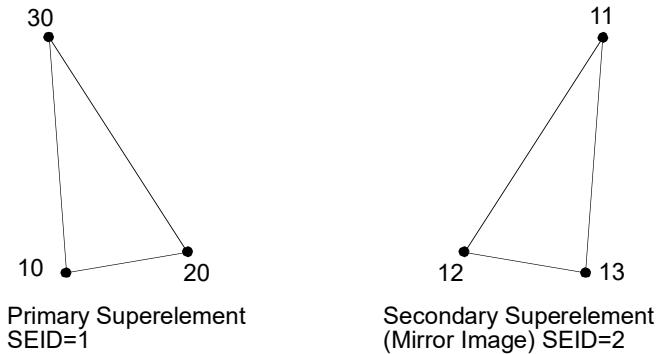

Figure 9-154 Grid Point Correspondence Between Primary and Secondary Superelements
2. In Figure 9-154, the exterior grid points of 10, 20, and 30 of SEID = 1 correspond to the points 13, 12, and 11, respectively, of image SEID = 2. The CSUPER entry may be defined alone or with a SEQSEP entry as shown in Figure 9-154.